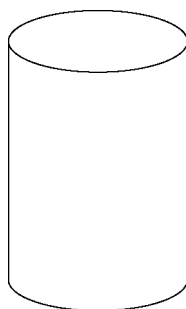

Fig. 3
- 3 **Figure 3** shows a round metal bar to be drilled at the centre.